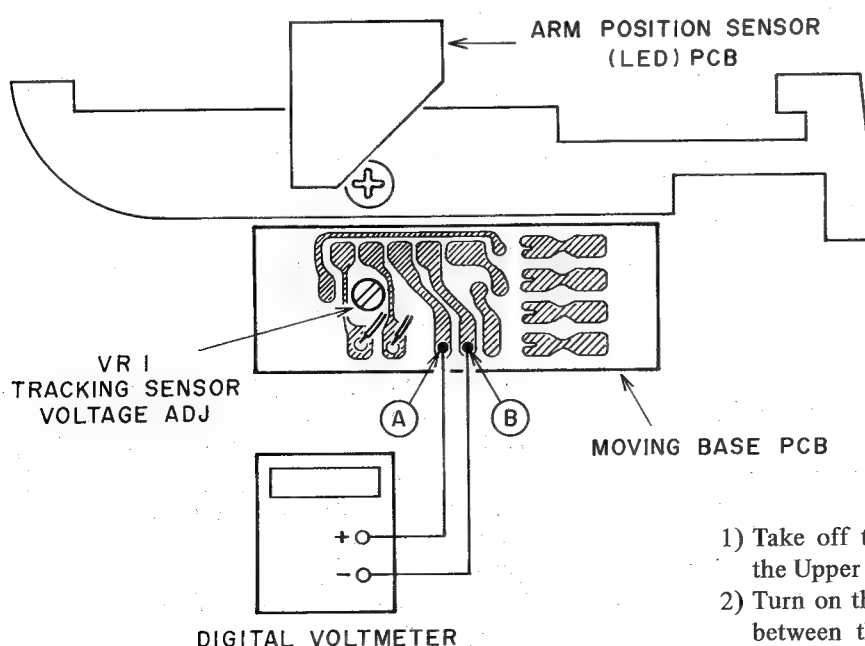

Fig. 6-2 Top View
### 6-3 TRACKING SENSOR VOLTAGE ADJUSTMENT (Refer to Fig. 6-2)
- 2) Turn on the power and connect a digital voltmeter between the points **A** (Terminal ③) and **B** (Ground) as shown in Fig. 6-2. Then adjust VR1 (20K) so that the voltage is  $3.0 \pm 0.1$  V.